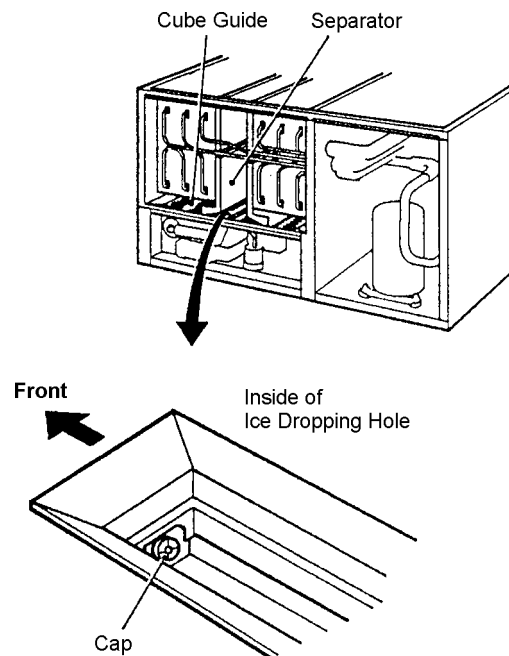

Fig. 4
- 3) Drain the water tank by removing the insulation panel and the cap located on the front bottom part of the ice dropping hole. See Fig. 4.
5) Drain the water tank by removing the cap located on the front bottom part of the ice dropping hole. See Fig. 4.
- 27) Drain the water tank by removing the cap located on the front bottom part of the ice dropping hole. See Fig. 4.